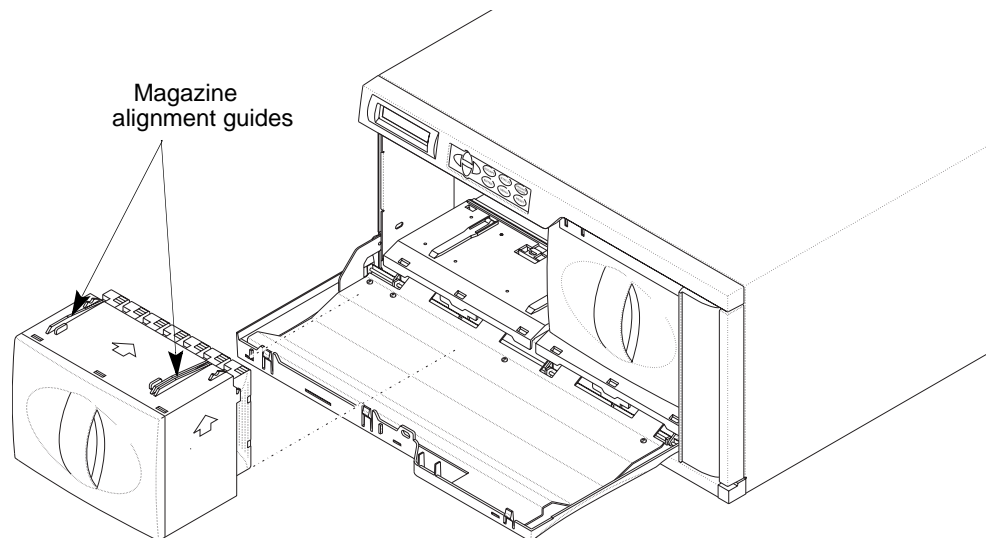

Figure 2-8 Installing a magazine in the library
2. Insert each cartridge magazine into the library so that the alignment guides are up (as shown in Figure 2-8) and the alignment grooves are down.